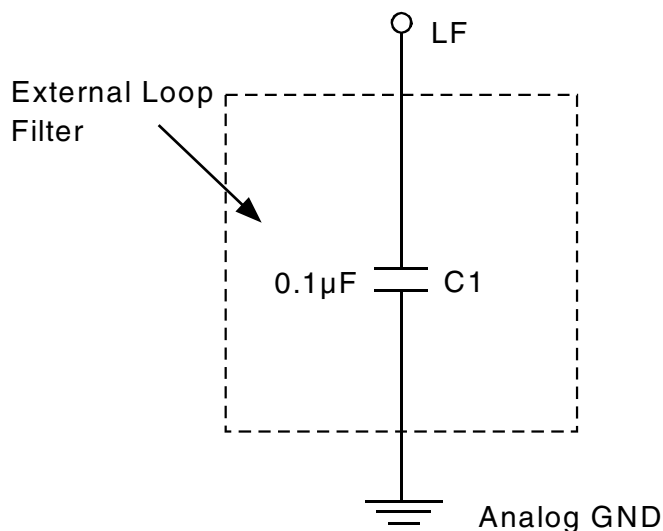

Figure 2. Loop Filter Connection
- Note 8 in "General AC Specification Notes" and Figure 2 describes this specification and its actual limits depending on the feedback connection.
- With V_{CC} fully powered-on and an output properly connected to the FEEDBACK pin. t_{LOCK} Max. is with C₁ = 0.1μF, t_{LOCK} Min. is with C₁ = 0.01μF (where C₁ is loop filter capacitor shown in Figure 2).
9. The **tpd** spec describes how the phase offset between the SYNC input and the output connected to the **FEEDBACK** input varies with process, temperature, and voltage. The phase measurements were made at 1.5V. The Q/2 output was terminated at the **FEEDBACK** input with 100Ω to Vcc and 100Ω to ground. **tpd** measurements were made with the loop filter connection shown in Figure 2 below: